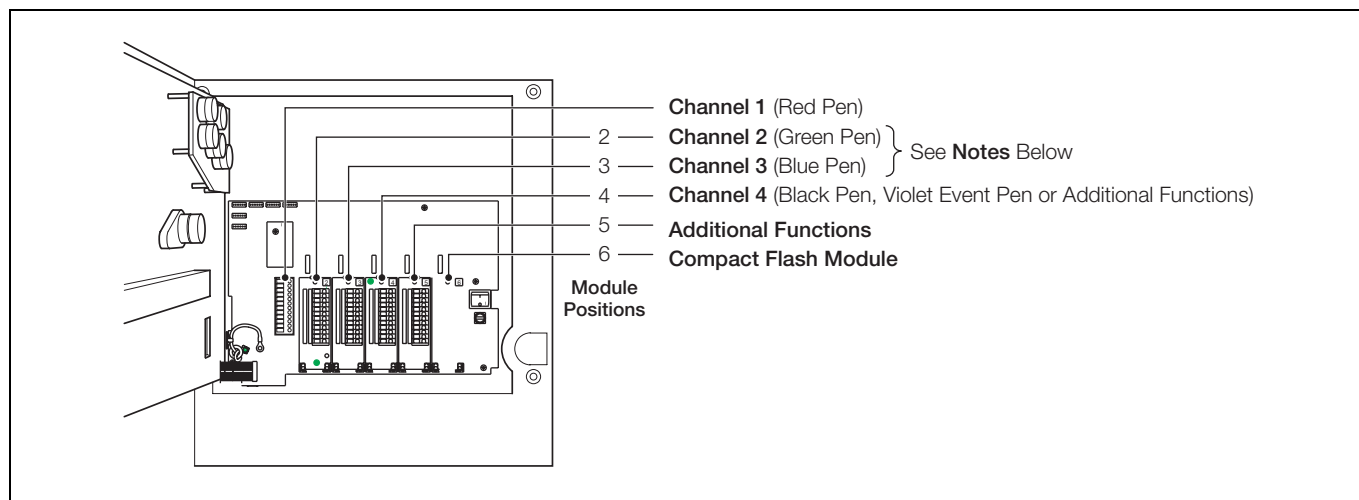
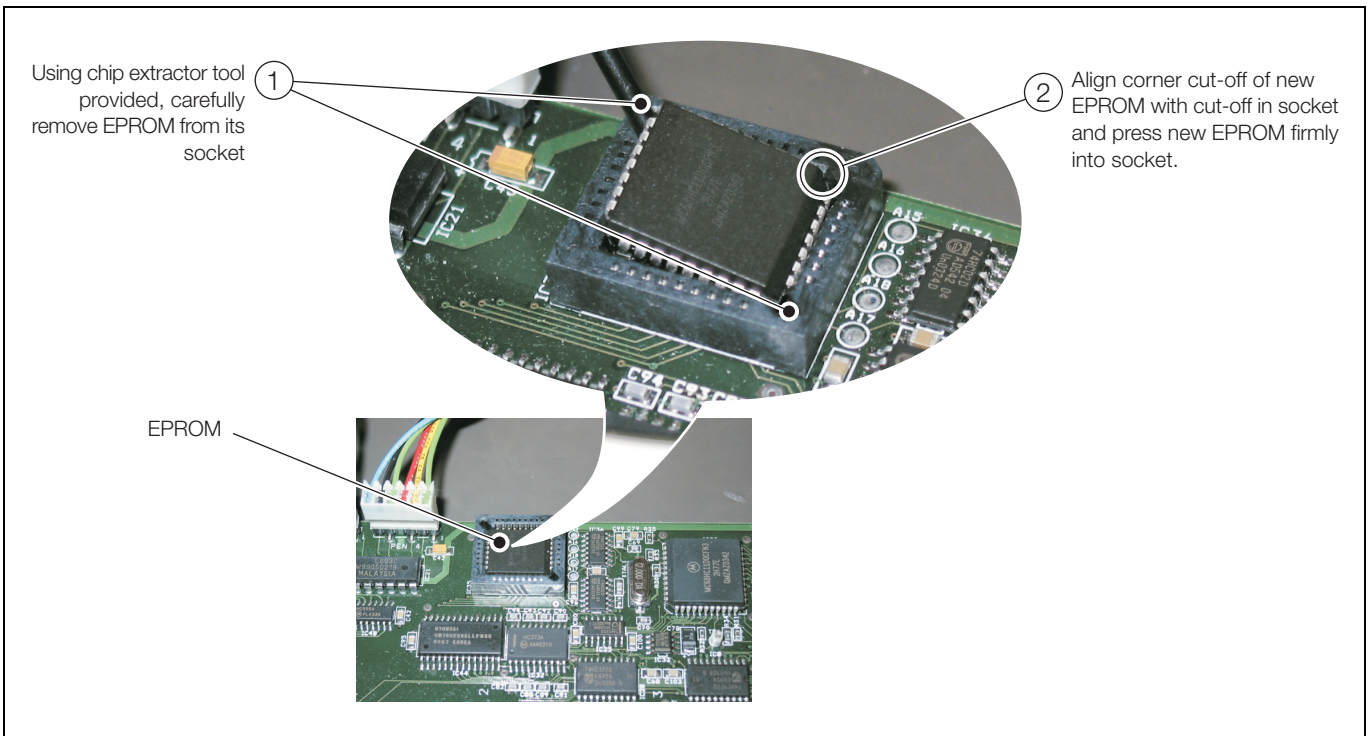

Fig. 3.1 Module Positions and Functions
Fig. 3.3 Replacing the EPROM
### 3.2 Fitting Compact Flash Module (C1300 Only) – Figs. 3.1 to Fig. 3.3
5. Identify the Compact Flash module position (position 6) – see Fig. 3.1, above.
7. Replace the EPROM as detailed in Fig. 3.3 on page 3.
10. Identify the module position – see Fig. 3.1 on page 2.
### 3.4 Fitting Analog I/O Modules (C1300 only), Digital I/O, MODBUS and Relay Modules (C1900 and C1300) – Figs. 3.1 and 3.6
5. Identify the module position – see Fig. 3.1 on page 2.